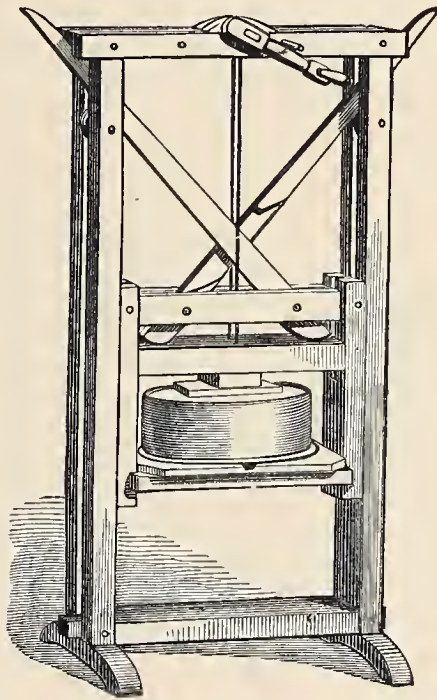

Fig. 465.—Self-Acting Cheese-Press.
*The Self-Acting Cheese-Press*, represented by *Fig. 465*, is light and port-